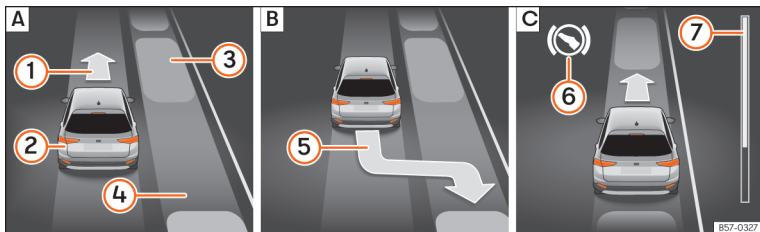
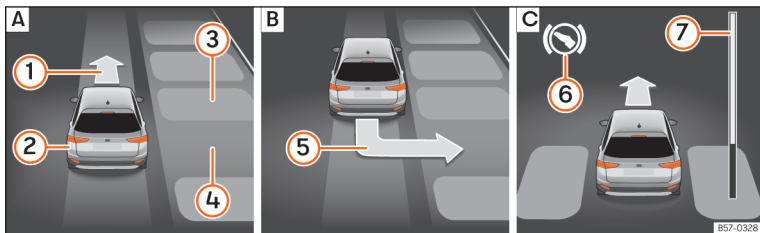

Fig. 282 On the instrument panel display: perpendicular parking. **A** Finding a parking space. **B** Parking position. **C** Manoeuvring.
Fig. 283 On the instrument panel display: parallel parking. **A** Finding a parking space. **B** Parking position. **C** Manoeuvring.
Key to **Fig. 282** and **Fig. 283**:
» **Fig. 282** ⑦ and » **Fig. 283** ⑦ on the screen of the instrument panel displays the relative distance to be covered. The greater the distance, the fuller the progress bar. When driving forward, the content of the progress bar decreases upwards, and when reversing, it decreases downwards.
2.	Look at the display on the instrument panel to see if the space has been detected as "appropriate" and if the correct position for parking has been reached »»» Fig. 282 [B] or »»» Fig. 283 [B]. The space is considered "appropriate" if the display on the instrument panel shows the message to park (S).
Reverse until the ParkPilot continuous signal is heard. OR: reverse until the instrument panel displays the message to go forwards »»» Fig. 282 [C] or »»» Fig. 283 [C]. OR: reverse until the instrument panel displays the message Park Assist finished .
The Park Assist system steers the vehicle forward and back until it centres it in the space »»» Fig. 282 [C] or »»» Fig. 283 [C].